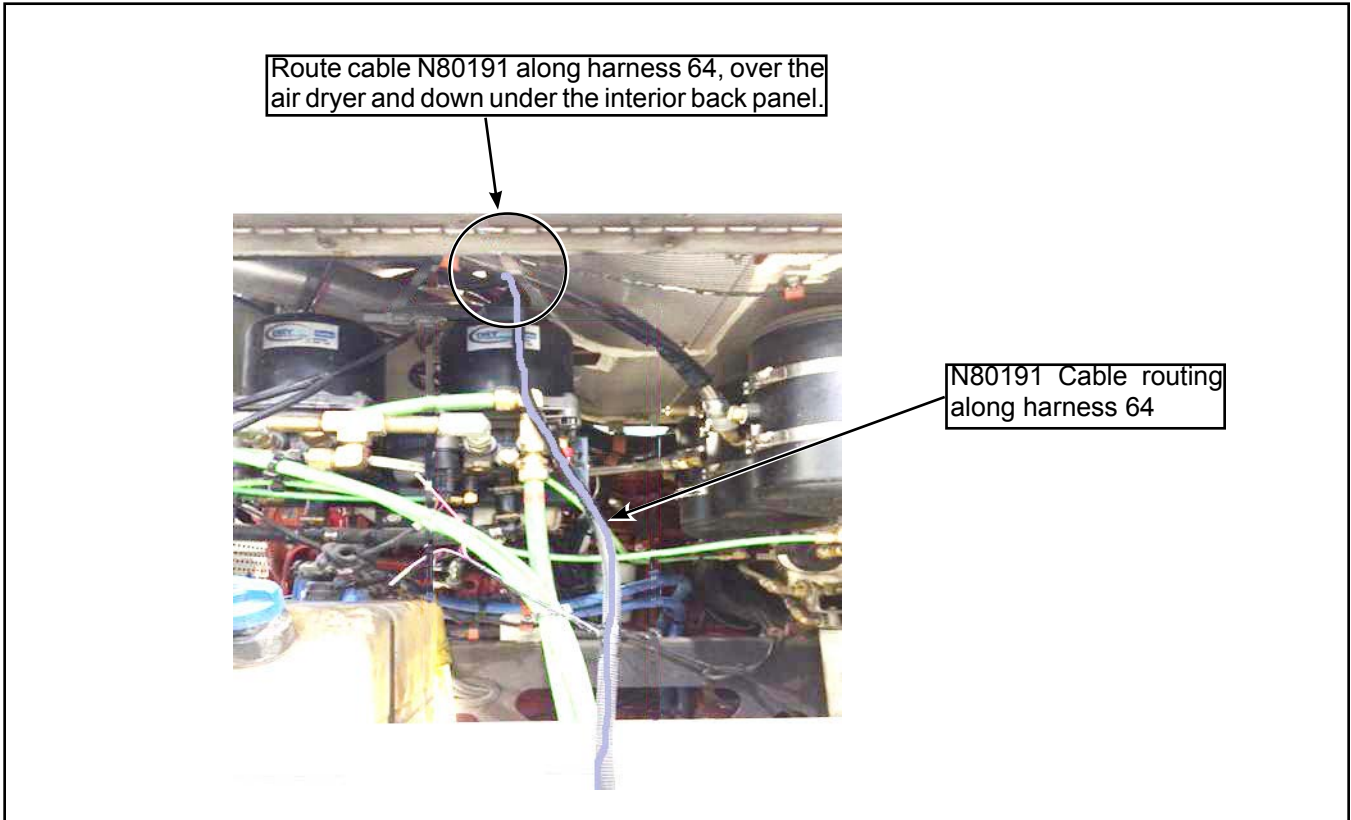

Figure 7 - N80191 Cable Routing Along Harness 64
1.8. Route cable N80191 along harness 64, over the air dryer and down under the interior back panel (see Figure 7).